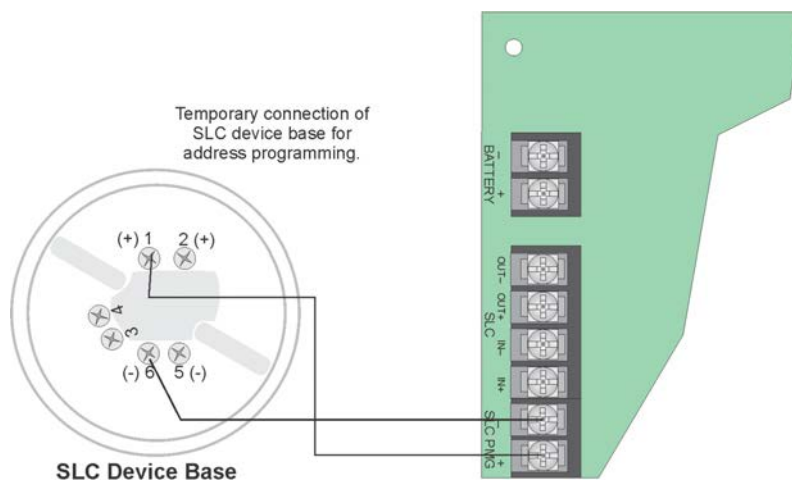

Figure 7.7 Temporary Connection of Detector Base to Panel for Addressing
2. Set the address for each device as described in Section Figure 7.7.
1. Connect a detector base temporarily to the programming terminals as shown in Figure 7.7.